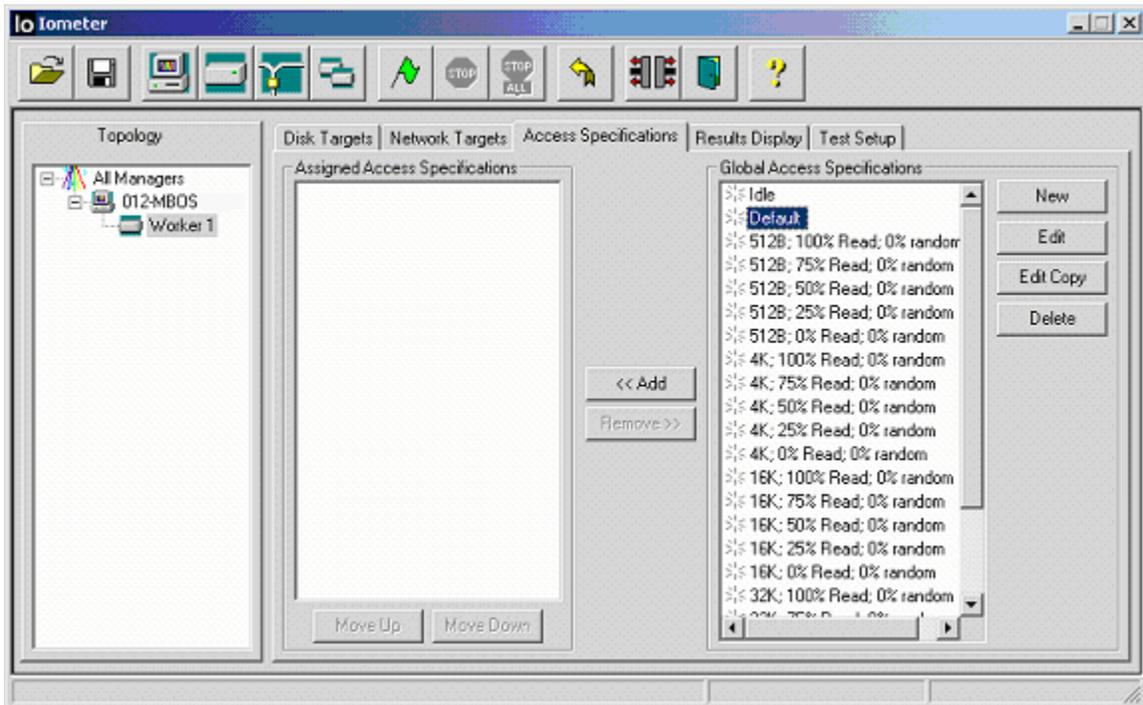

Figure 3
- Select the Access Specifications tab (see figure 3). A list of preset test jobs will appear in the Global Access Specifications pane.
- Click the Okay button at the bottom. You will now go back to the Access Specifications tab in figure 3.